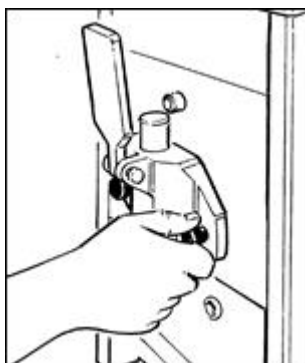

Fig. 54
- Once you have correctly mounted the flange, screw the security knobs right down (Fig. 54).